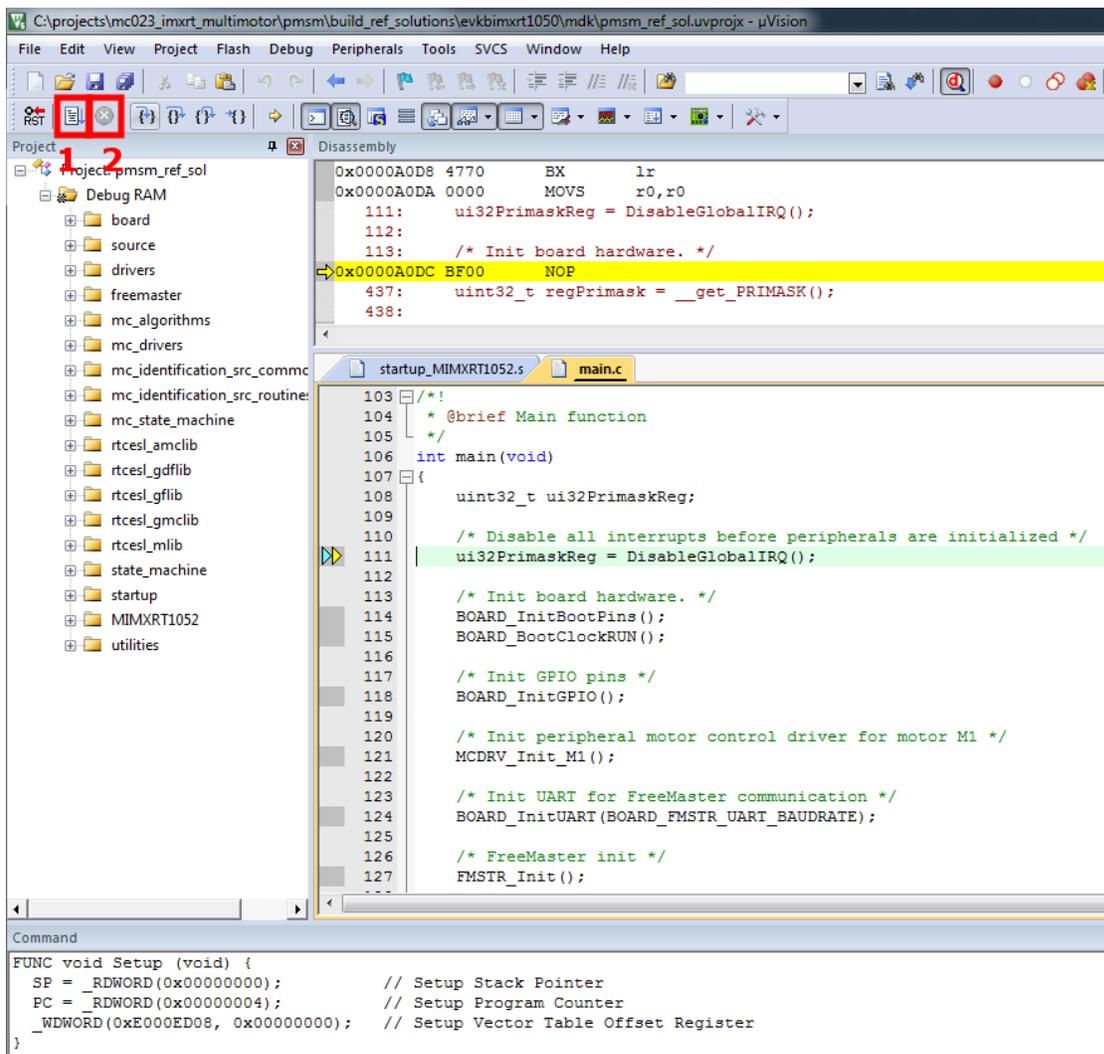

Figure 25. Keil debug workspace
5. As shown in Figure 25, the layout is switched to the debugging mode.
- To run the application, press the “Run” button (Point 1 in Figure 25).
- To pause the running application, press the “Pause” button (Point 2 in Figure 25).
7. As shown in Figure 25, the layout switches to the debugging mode. The debugger does not perform reset; it just connects to the running target.
- To stop debugging, press the “Debug” button (Point 4 in Figure 25).